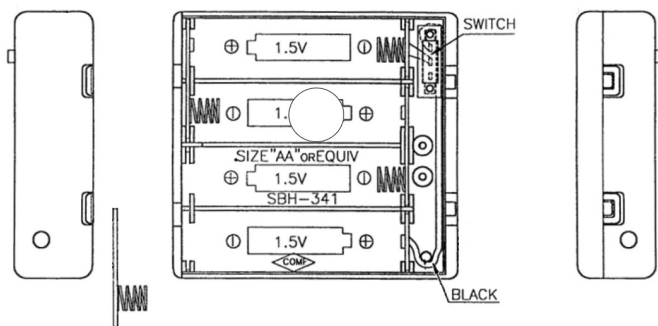

Fig 2L - Wiring diagram
- 6 - Replace the connector taking care that it is correctly orientated. [Fig 2L]